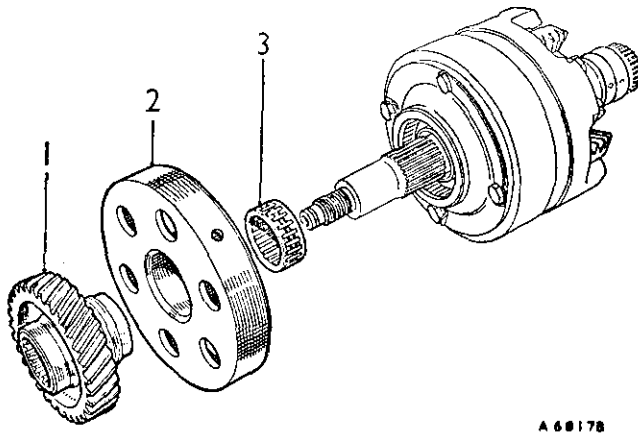
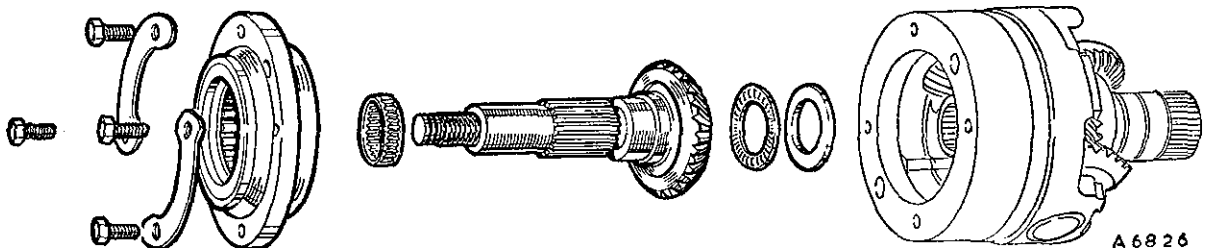

Fig. Fa.39
Fig. Fa.40
- (5) Remove the input gear, and pull off the first gear free-wheel reaction member and needle-roller bearing (Fig. Fa.39).
- (6) Knock back the lock washers and remove the first gear free-wheel housing set screws.
- (7) Pull out the first gear free-wheel assembly, input gear, Torrington thrust race, and washer (Fig. Fa.40).
- (27) Assemble the bevel input shaft with its Torrington needle thrust bearing and selective steel washer (see Fig. Fa.40).
- (28) Refit the one-way clutch to the gear train housing (Fig. Fa.40), tighten the securing bolts, and tap up the locking plate tabs.
- (29) Refit the free-wheel support.